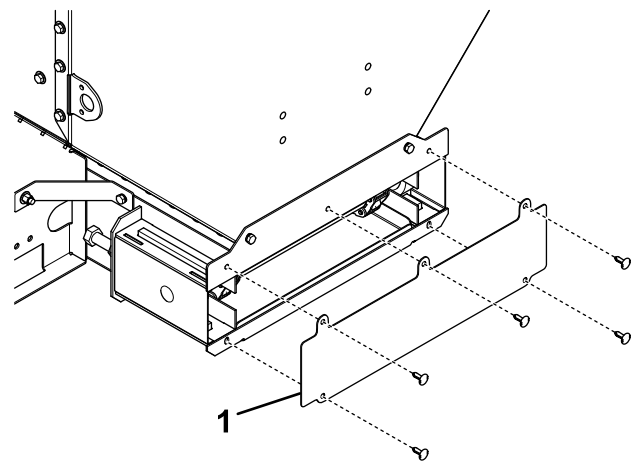

Figure 19
2. Remove the back cover shown in Figure 19.